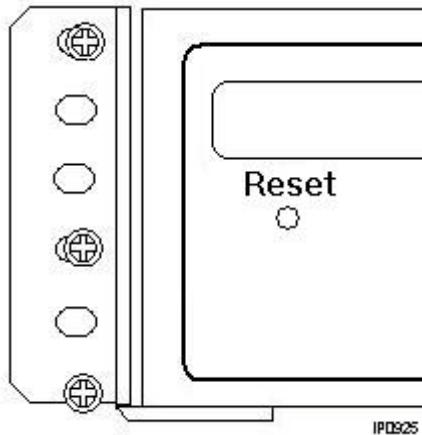

Figure 16: MXe Rack-mount Screw Placement (2-piece Bracket Installation)
- loosely enough that the frame mounting bracket can be dropped into position, resting on the screw thread (see Figure 16).